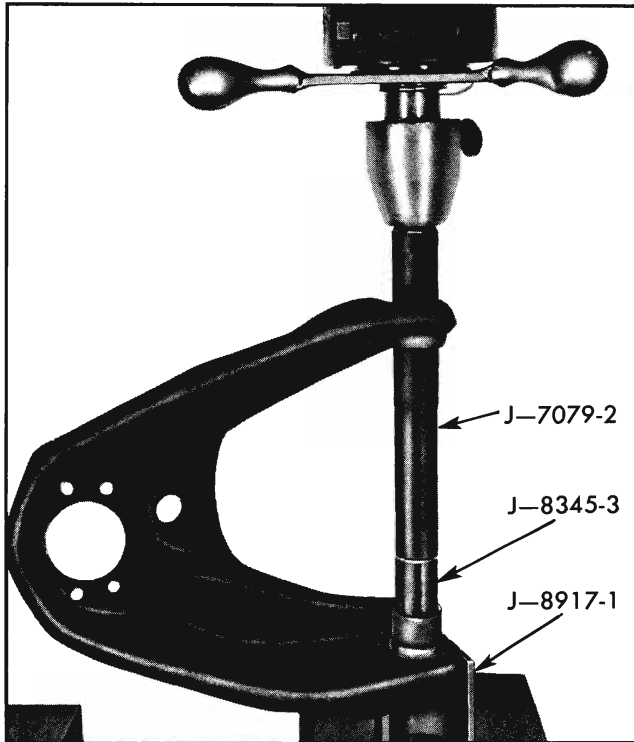

Fig. 3-24 Removing Control Arm Bushing
4. Remove cross shaft, support control arm, and press out remaining bushing (Fig. 3-24).